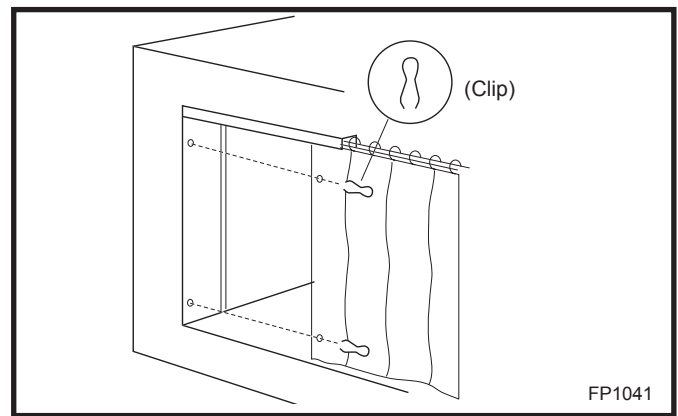

Fig. 5 Clip installation.
2. Remove the four (4) metal clips, two (2) for each side of the fireplace opening.
4. Align each metal clip with the hole it was removed from, while at the same time, hooking the clip through the last wire of the screen. Snap clips into place. (Fig. 5)